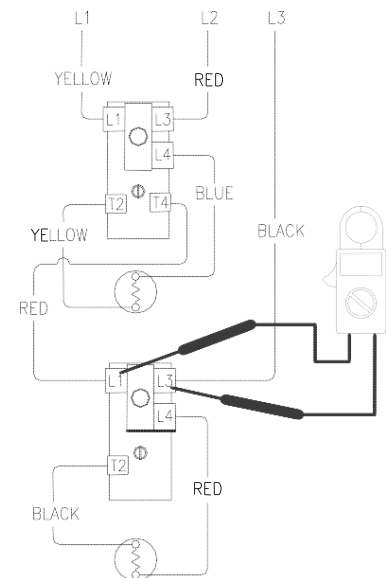

Figure 16
7. Check voltage across terminal L1 & L3 of lower thermostat (see Figure 16).